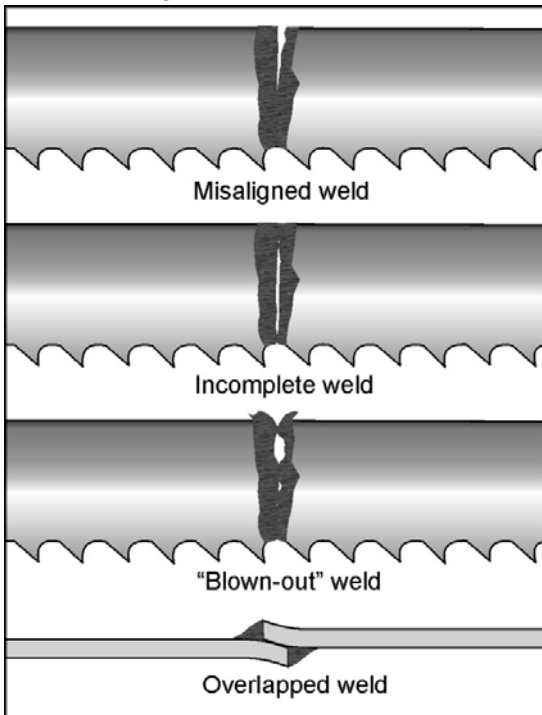

Figure 13-5
10. Release weld button (F) and wait 3 or 4 seconds until blade returns to original color. Unclamp blade.
11. Rotate pressure selector switch (E) back to "0".
12. Remove blade from welder jaws, and carefully inspect it. The spacing of the teeth should be uniform and the weld should be located in center of gullet. Misalignment is easily noted at this time from the weld appearance. See Figure 13-5 for examples of incorrect welds.